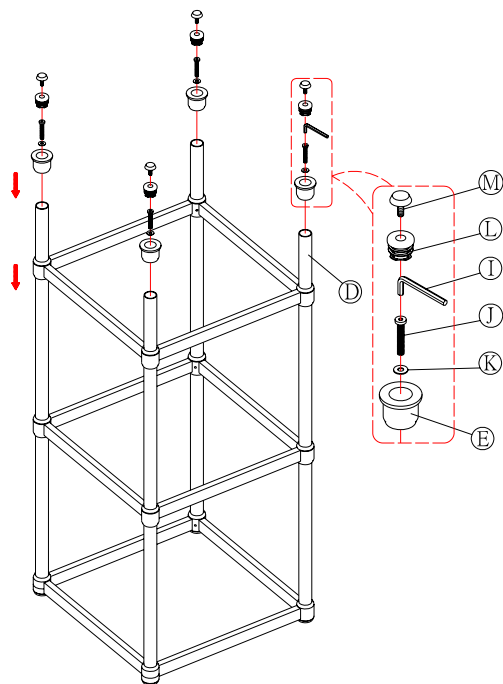

Fig. 3
5. Put the short metal tubes (D) to the metal rods on the end of the frame. Secure the metal feet (E) to the legs using the bolts (J) and the flat washers (K). Tighten with the enclosed Allen key (I).
6. Plug the plastic caps (L) into the end of the feet. Screw the adjustable levelers (M) into the plastic caps as shown (Fig. 3).